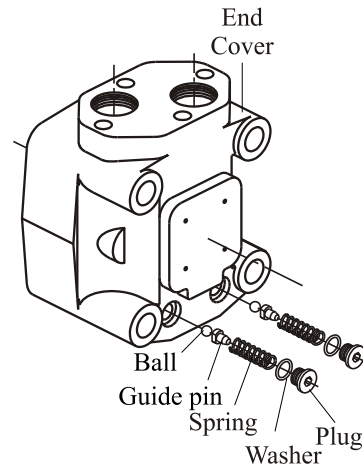

Fig.8
With an Allen key S5 remove plug and check valve parts from end cover (see Fig.8).
17. Reassembly of Check valves: Place the front cap with the name plate upwards. Drop the ball into the valve hole. Install check valve parts as shown on Fig.8 and tighten plug with a torque of 1÷1,5 daNm and Allen key S5.